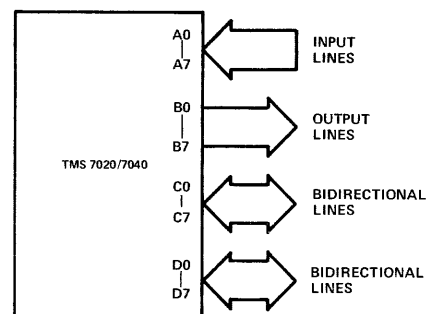

Figure 2—I/O ports in single-chip mode
Beyond the memory address space devoted to the register file, there is a 256-byte region for memory-mapped peripheral input/output control, called the peripheral file (PF). The 32 bits of general purpose I/O, available in the Single-Chip Mode, are broken out into four 8-bit ports (see Figure 2) that can be manipulated via six dedicated peripheral instructions. Any of these bits may be individually set or cleared, or tested in conjunction with an appropriate bit-test-jump instruction.